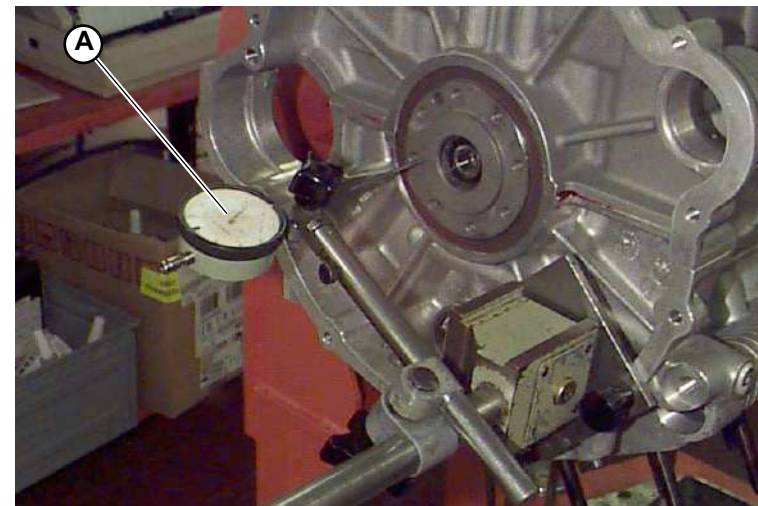

Fig.1
1. Install the dial gauge as shown in the figure (A-Fig.1).